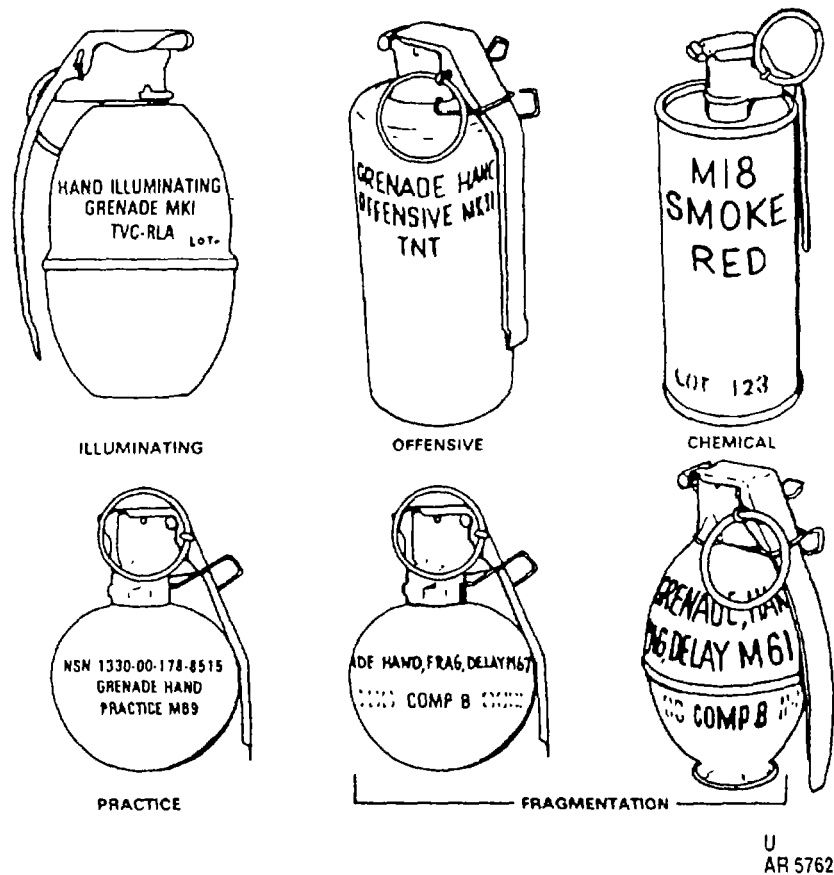

Figure 1-1. Representative types of hand grenades.
b. Types. There are five types of hand grenades (fig. 1-1):